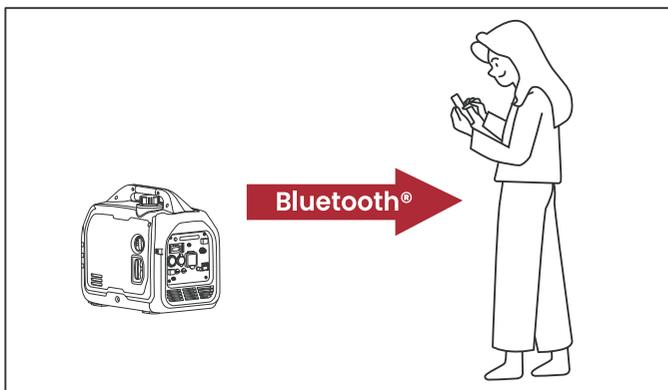

Fig.17
1. Remote start or stop: Can start or stop the generator from a distance (see **Fig.17**).